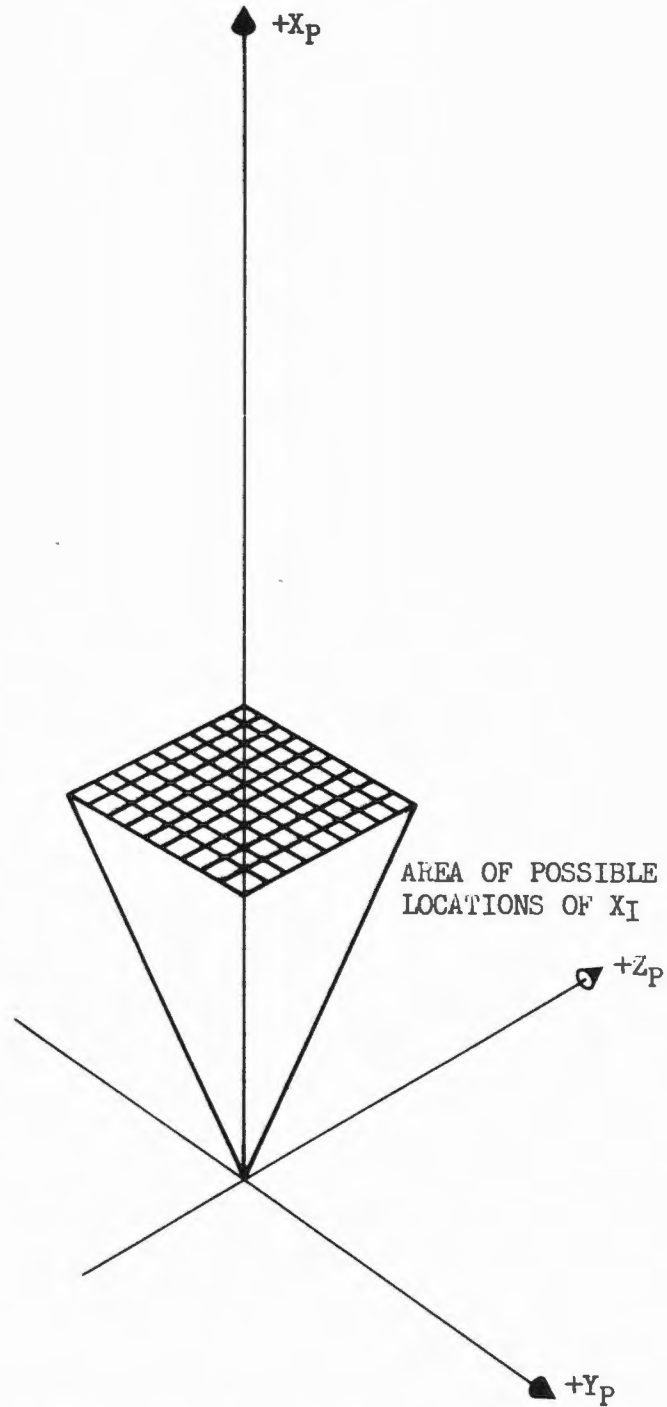
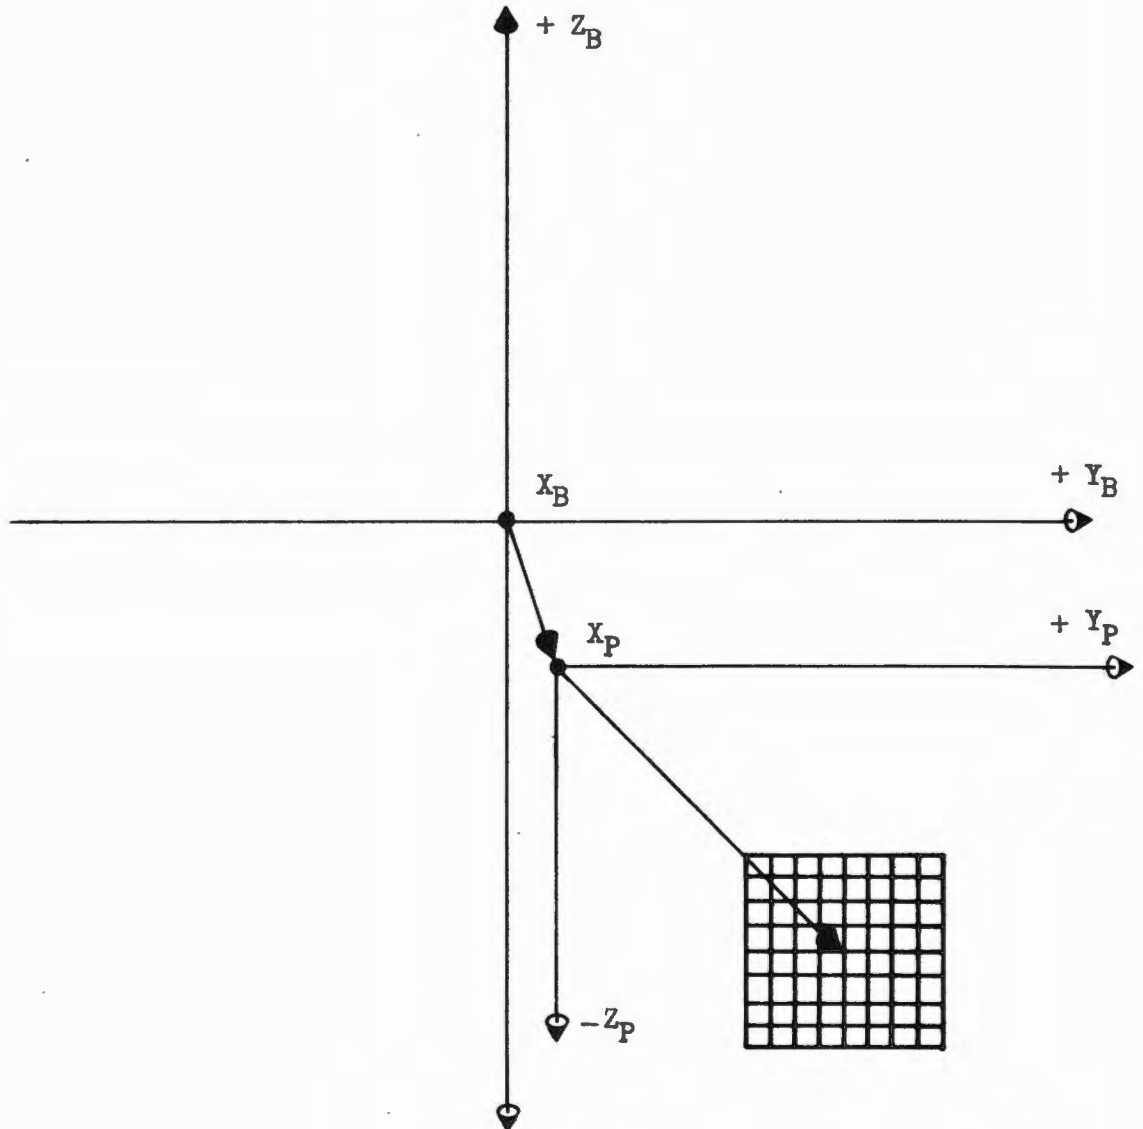

Figure 5-7. Further Restriction Through Rate Magnitude Selection
Figure 5-8. Y-Z Plane Plot of Restricted Location
5.1.2.3.3 In place of ω_θ and ω_ψ ranging from plus to minus .02 degree/second, they can now be restricted to having some positive value less than .02 degree/second. A lower limit can also be set as, unless this value exists, positive motion of the attitude error indicators could not be observed. The upper limit of .02 degree/second will cause 1.2 degrees of travel of the indicators in a minute. Any rate slower than .6 degree in a minute will be difficult to determine, so the lower rate limit will be set at .01 degree/second. Imposition of these rate boundaries will limit the location of X_I even further as is shown in Figure 5-7.
5.1.2.3.4 If the area through which X_I must pass (shaded area of Figure 5-7) can be superimposed about the desired inertial X_B orientation the value of β can be substantially reduced. The choice of the +Y, -Z quadrant for location of X_I was deliberate. The offset location of X_I from Figure 5-7 is shown in a view of the X_B - Z_B plane in Figure 5-8 to clarify this discussion. The center of the area of possible locations of X_I can be seen to be a fixed value away from the X_B axis.